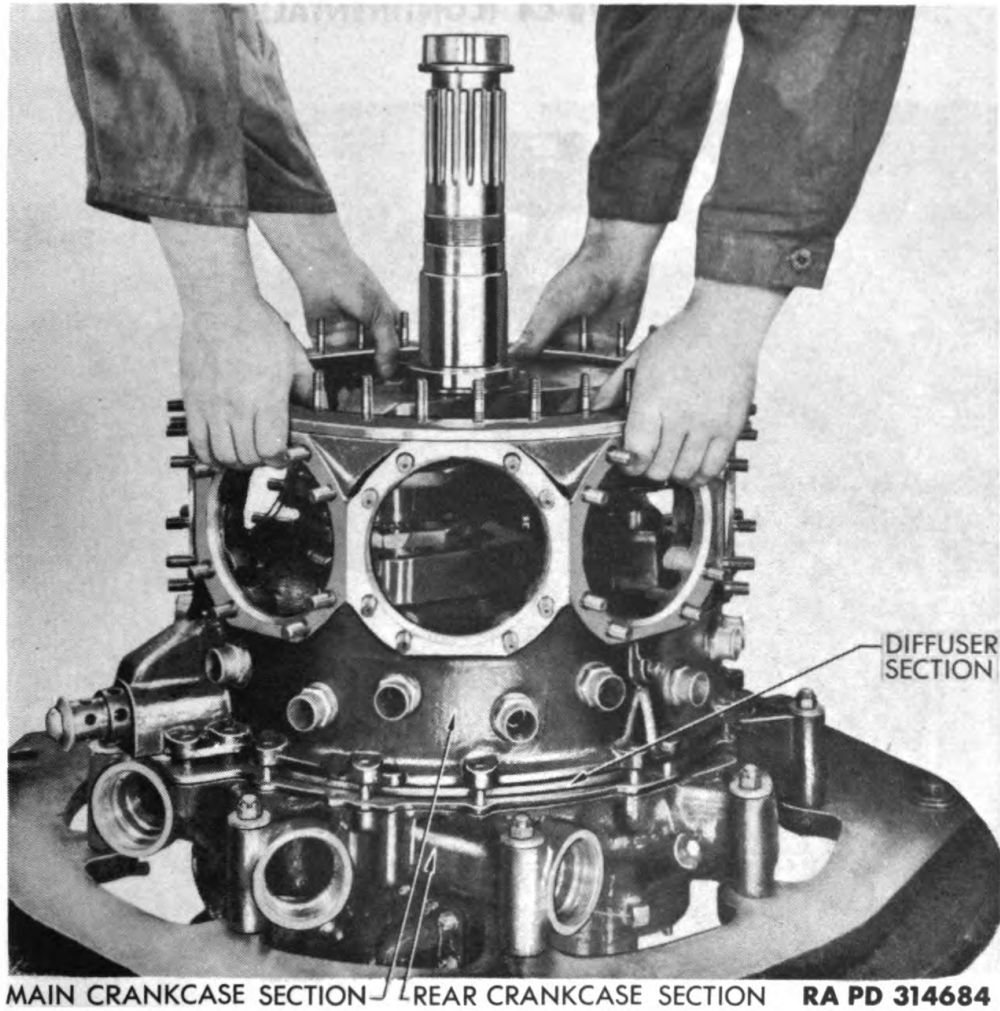

Figure 69 – Removing Main Crankcase Section
(1) **REMOVE BY LIFTING.** Cut and remove safety wires from 16 remaining nuts that hold main crankcase section to rear section. Remove nuts and flat washers. Lift main section, including crankshaft, from rear section studs (fig. 69).